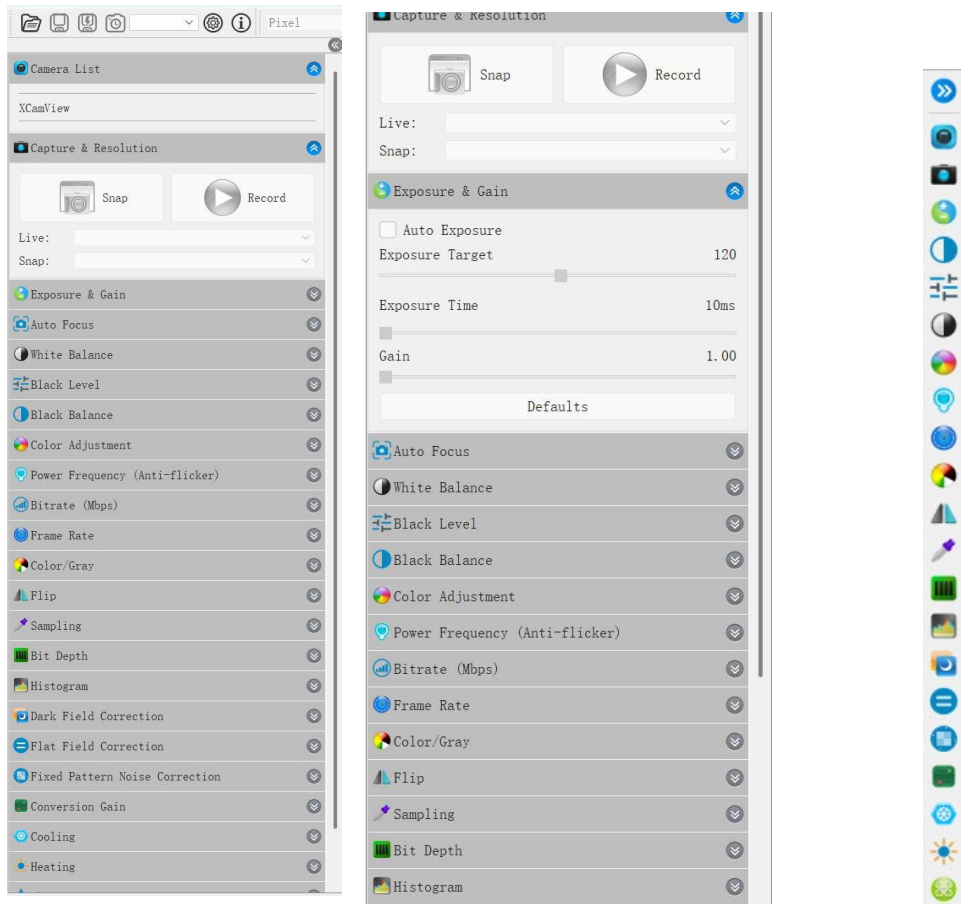

Figure 2-3 Layout Diagram of Docking Window/tools Bar on ALTRAvIEW LITE Control Panel
The ALTRAvIEW LITE control panel is positioned on the left side of the main interface, as shown in Figure 2-3. It features two layout modes switchable via the arrow button (red box) at the top: (1) Docked Windows and (2) Toolbar. In Docked Windows mode, a list of all control panels is displayed, allowing users to hide or expand them by clicking their titles (two left images). In Toolbar mode, only control panel icons are shown, with users clicking an icon to reveal its corresponding panel (right image).